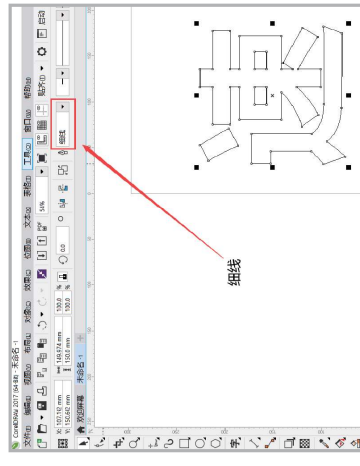

Figure1-10
1. For drawing with CDR software, you need to input text → select font → font size → convolution → set the outline width to a thin line, like the Chinese character “速”, shown in Figure 1-10 below.